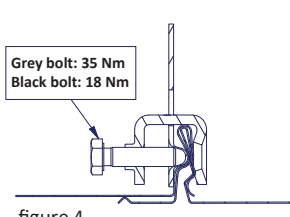

figure 4
- The M8 bolt in the tightening clamp shall be tightened to a torque, mentioned in the figure 4. Correct tightening torque will spread out the tightening clamp a bit, in order to create a tight long-lasting connection (figure 4).